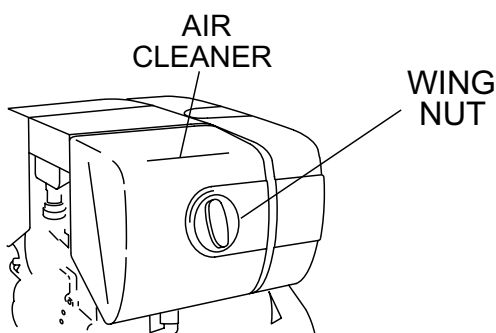

Figure 8. Checking the Air Cleaner
- Loosen the wing nut (Figure 8), remove the air cleaner cover.